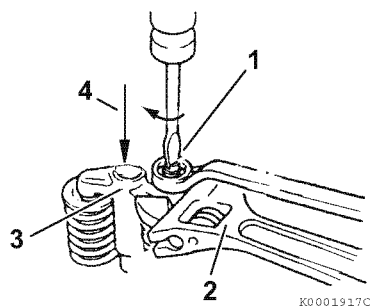
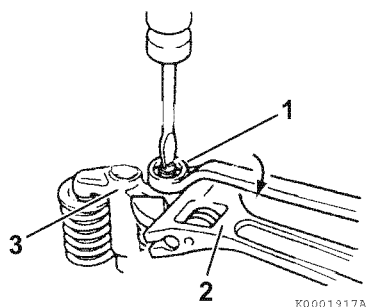
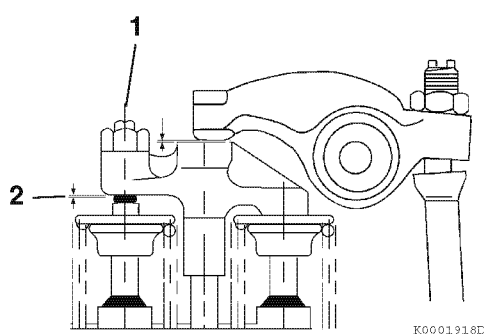

Figure 6-82
Figure 6-83
Figure 6-84
5. To assure the valve bridge contacts the rear valve, apply light, downward (4, **Figure 6-82**) finger pressure on the valve bridge (3, **Figure 6-82**), and loosen the valve bridge adjusting screw (1, **Figure 6-82**), until there is visible clearance (2, **Figure 6-82**) between the adjusting screw and the front valve.
6. To assure the valve bridge has equal contact with the front and rear valves, apply light downward (4, **Figure 6-82**) pressure on the valve bridge (3, **Figure 6-82**), adjust the valve bridge adjusting screw ((1, **Figure 6-82**), (1, **Figure 6-84**)) so there is zero "0" clearance (2, **Figure 6-84**) between the adjusting screw and the front valve.
7. Tighten the lock nut (1, **Figure 6-83**), while holding the valve bridge (3, **Figure 6-83**) with a wrench (2, **Figure 6-83**). Verify that the valve clearance (2, **Figure 6-84**) is zero "0".